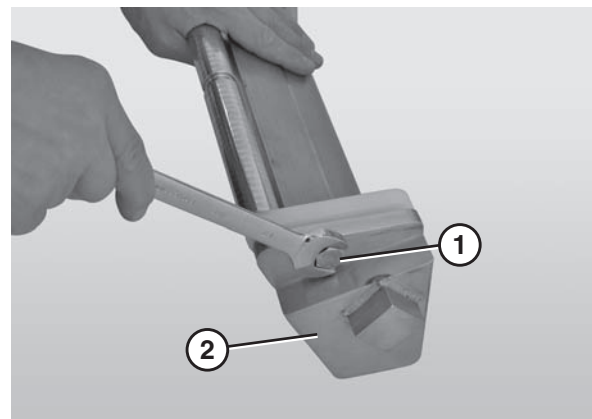

Figure 77
4. Use a 17 mm wrench to remove both pilot nose bolts (**Figure 77, item 1**) from the nose bar weldment (**Figure 77, item 2**).